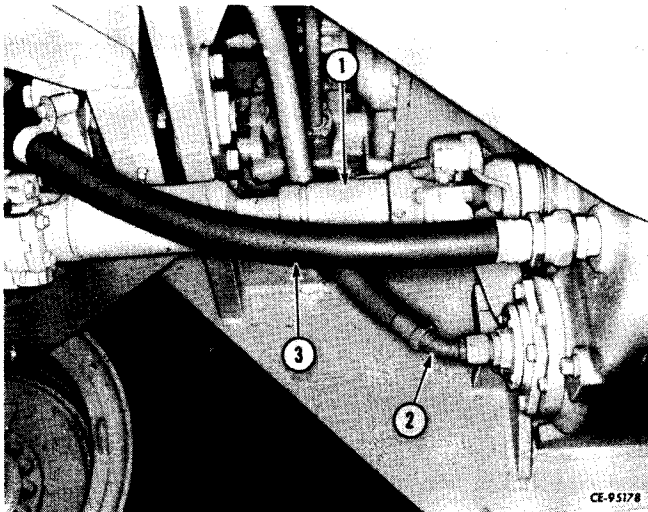

Figure 4-13
Disconnect transmission to rear axle driveshaft (1, Fig. 4-13) from transmission. Disconnect sump hose (3) and strainer hose (2).